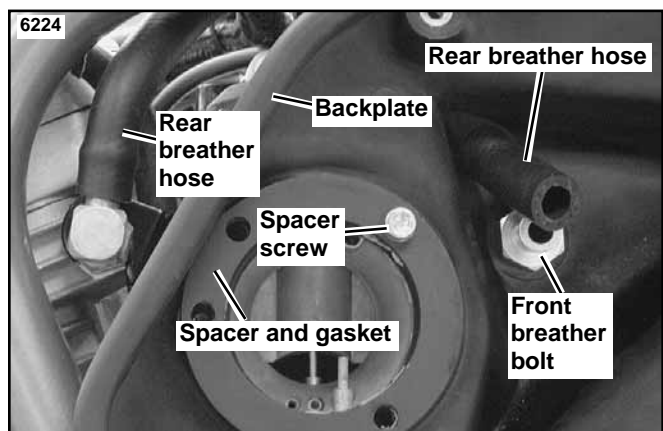

Figure 17. M2 or S3 Stock Air Cleaner Spacer
- b. See Figure 17. Remove spacer screw, spacer and gasket.